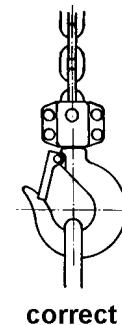
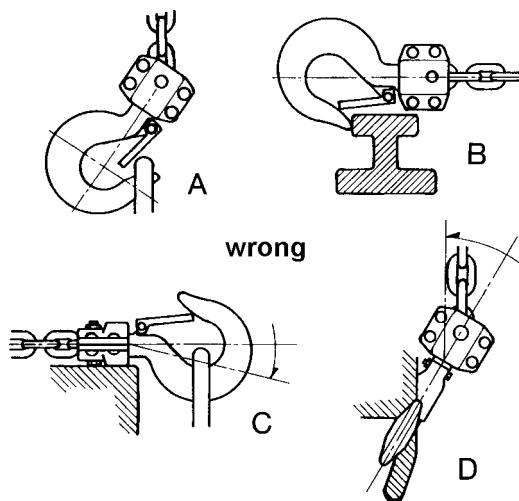

Fig. 2
Fig. 3
2. Center load on bottom hook correctly, (Fig. 2). Incorrect loading is dangerous to the operator, the puller, and the load. **Never**, load the hook in front of the safety latch (A, Fig. 3), **never** load the hook tip (B, Fig. 3), **never** load the hook off the centerline (C, Fig. 3), **never** load the hook sideways (D, Fig. 3).